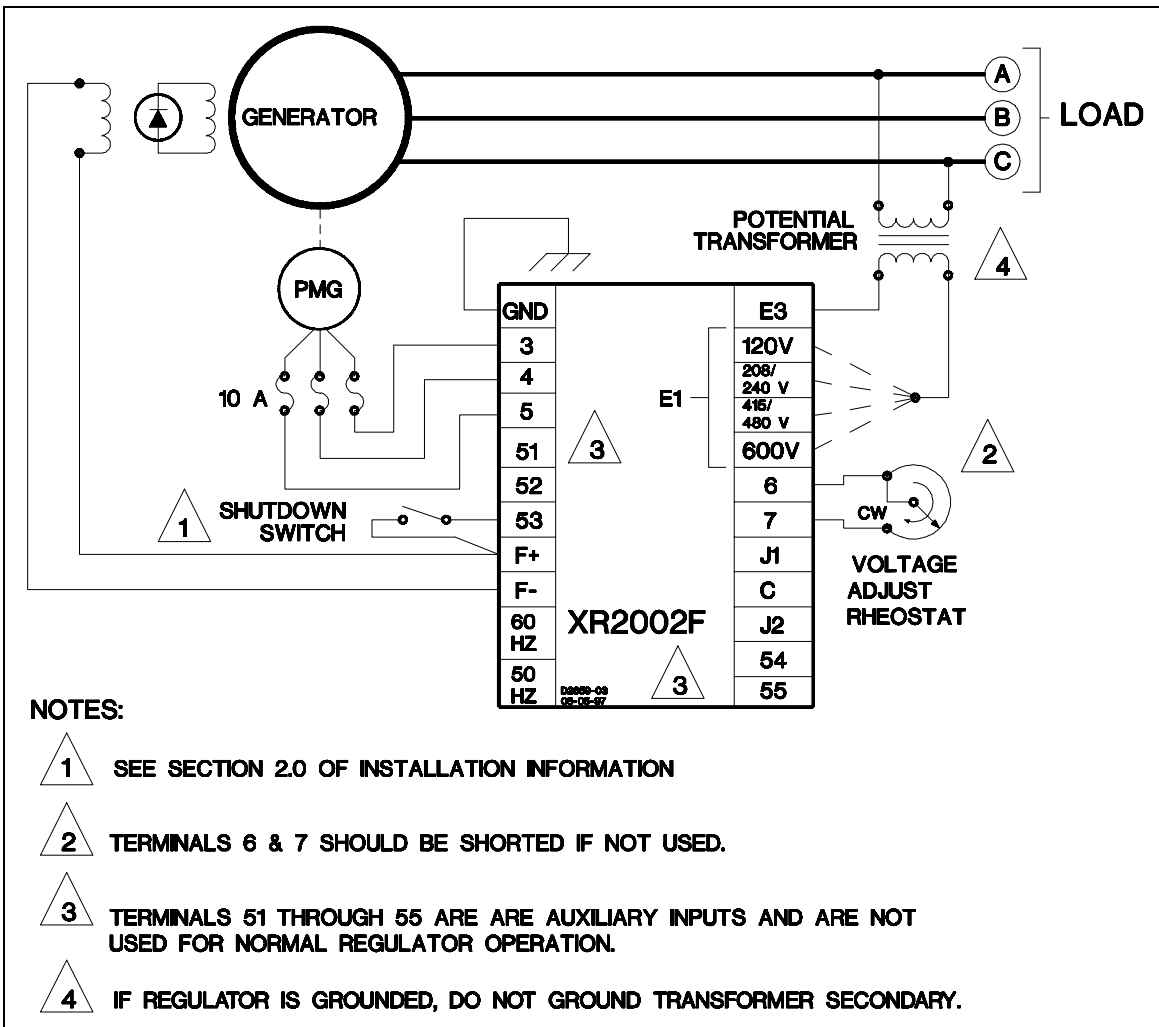

Figure 2-2. XR2002/XR2002F Interconnection Diagram (Input Power from PMG).
- a. Refer to Figure 2-2 and 2-3. Connect the Voltage Regulator output terminals (F+ and F-) to the brushless exciter field terminals while being sure to observe polarity.
- b. Refer to Figure 2-2. Single-Phase input power from the PMG (within the 48 to 480 Hz frequency range) should not exceed 100 Vac to 180 Vac between terminals 3 and 4.
- c. Refer to Figure 2-2. Three-Phase input power from the PMG (within the 48 to 480 Hz frequency range) should not exceed 70 Vac to 140 Vac between terminals 3, 4, and 5.
(Refer to Figures 2-2 and 2-3.) To allow the removal of the exciter field power, it is strongly recommended that the factory installed jumper be removed from across terminals F+ and 53 and replaced with a switch. A switch (Basler P/N 05407) may be ordered for this purpose. The switch is a single-pole, two position, rotary selector switch that is rated for 10 A at 125 Vac.
It is highly recommended that a fuse with a high interrupting capability be installed in each of the input power lines. Refer to Figures 2-2 and 2-3.